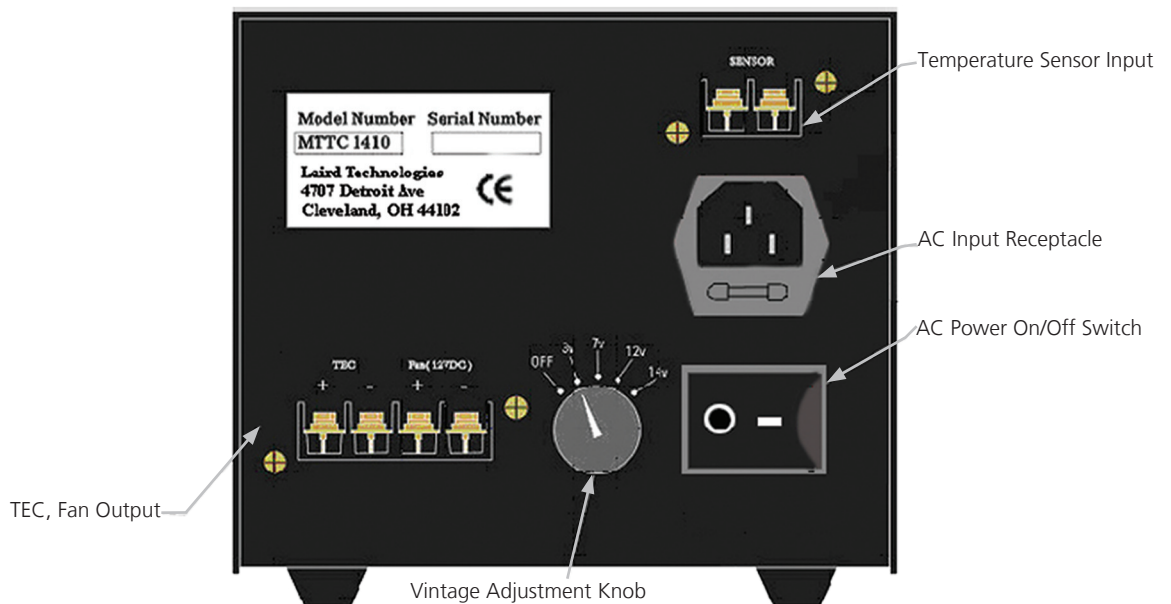

Figure 1 - Rear Panel
1. Connect a Pt1000 RTD temperature sensor (provided) to the screw terminals in upper right corner of rear panel (see Fig.1).